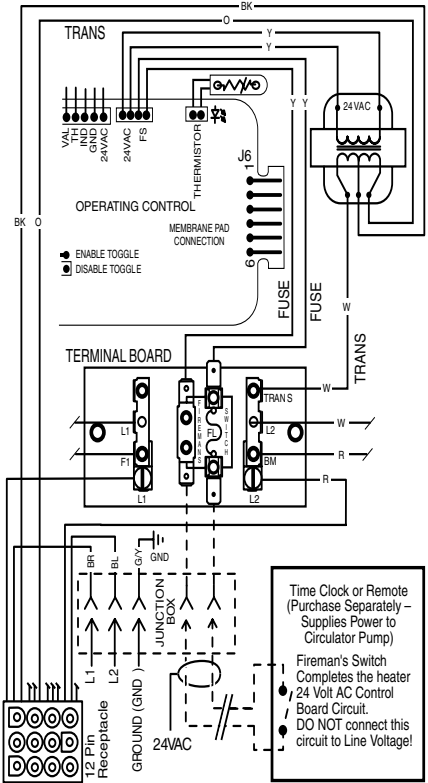

Figure 32.
- Connect wires between the control board terminals on the heater and the external relays, as shown in Figure 32 below. Use at least 2 relays per heater, to allow for an "OFF setting" on each heater mode. Select relays that can handle logic level switching. DO NOT apply line voltage to control board terminals.